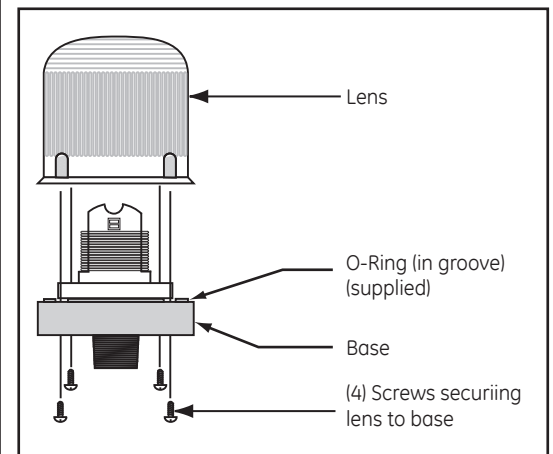

Figure 2. Removing the Lens
- Remove (4) screws securing the lens to the base from bottom of base (Figure 2) and remove lens.
- Replace lens on base and secure with (4) screws removed in step 1.
1. Remove (4) screws securing the lens to the base from bottom of base and remove lens.
2. Replace lens on base and secure with (4) screws removed in step 1 (Figure 2).